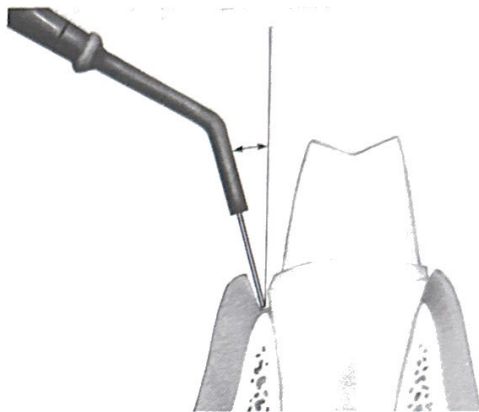

Figure 6.
2. Electrode position is especially important during this procedure: the angle between the electrode and the tooth should be minimal. Too wide an angle may result in a reduced height of the marginal gingiva. Figure 6 shows the proper angle of the Loop electrode in relation to the tooth. If you find that the resulting trough is too narrow, you can retrace the trough (after waiting 15 seconds) while increasing the electrode angle slightly.